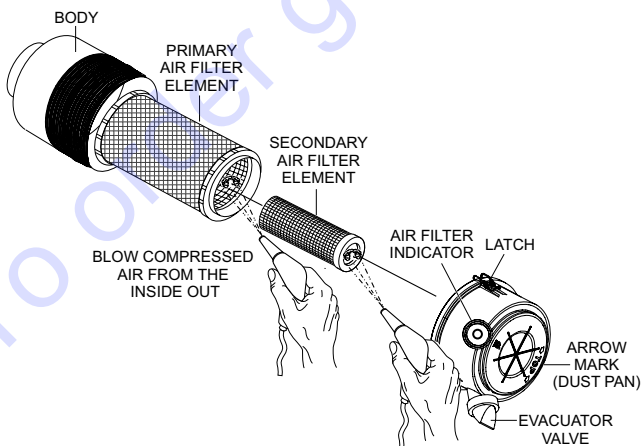

Figure 81. Air Cleaner
Every 250 hours: Remove the air cleaner element (Figure 81) and clean the heavy-duty paper element with a light spray of compressed air. Replace the air cleaner as needed.
1. Release the latches (Figure 81) that secure the cover to the air cleaner body.
6. To clean the primary element (paper air filter) as referenced in Figure 81, tap the filter element several times on a hard surface to remove dirt, or blow compressed air, not to exceed 30 psi (207 kPa, 2.1 kgf/cm2), through the filter element from the inside out.